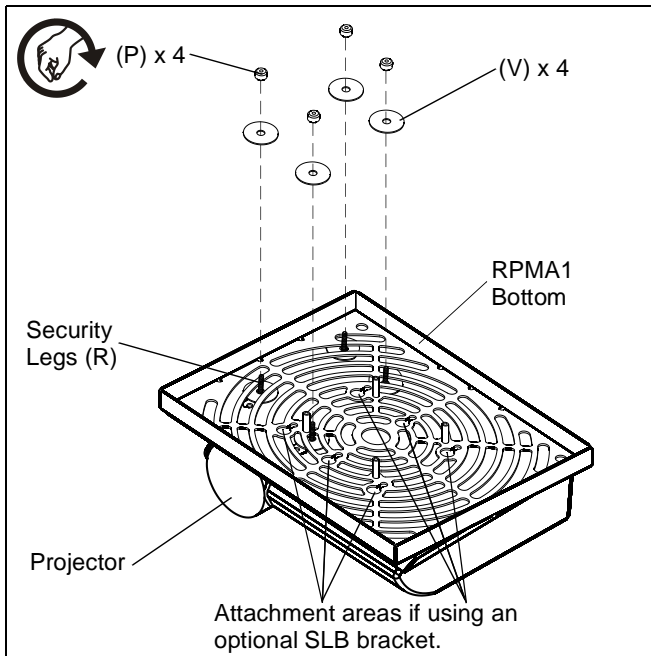

Figure 5
- Remove the paper backing from the adhesive washers (V) and attach projector to RPMA1 bottom using adhesive washers (V) and thumbnuts (P) over the security legs (R). (See Figure 5)
NOTE: An optional SLB bracket may be purchased and used to attach projector to RPMA1. (See Figure 5)